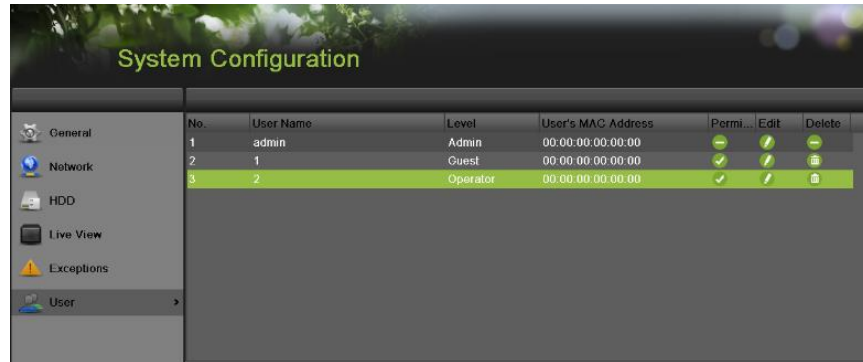

Figure 93 User Settings Menu
3. Click the OK button to confirm adding the user. Once a new user has been created, the fields behind Users will become editable, as shown in Figure 93.